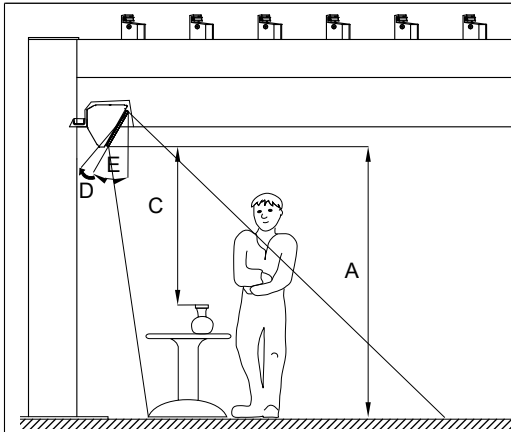

Fig. 26: Minimum distances for Design radiant heater
- [1a] Hold the bracket for the radiant heater against the vertical wall of the rain gutter while adhering to the specified minimum distances (see Fig. 26).